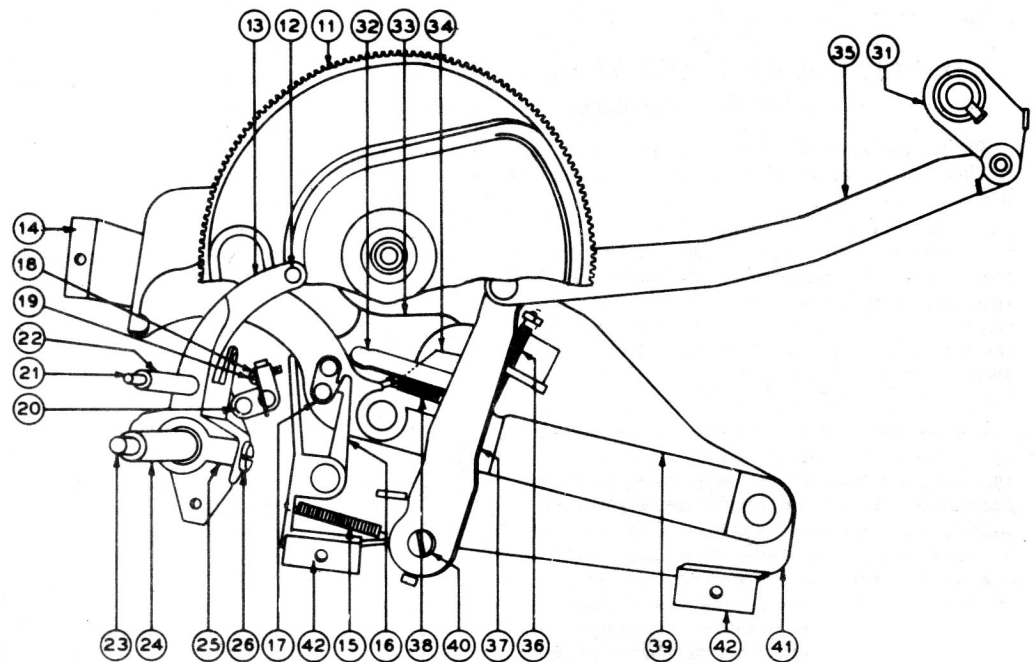

FIG. 2. CUTAWAY VIEW SHOWING PARTS UNDER SUB-PLATE ASSEMBLY (83) FIG. 3
If the mechanism continues to change records constantly, it indicates trouble in the lift (37). Failure of this lift to disengage with the cam gear (11), Fig. 2, will cause the trouble. Check the various rivets at which motion occurs to find a point where friction or binding is interfering with freedom of motion. The cam lever (39), Fig. 2, should also be checked for too much friction. Oil this part if necessary.